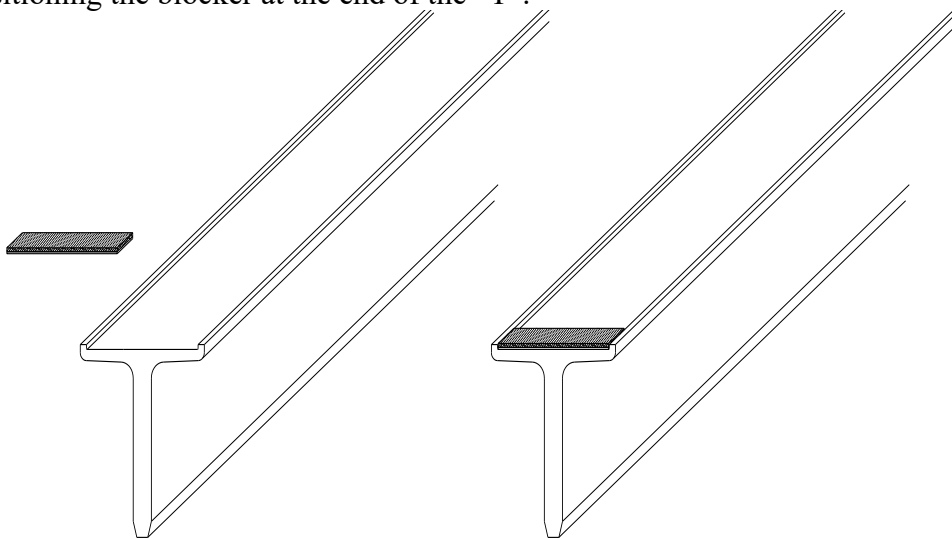

Figure C.1
1. If your system is using Silvis Seals you must apply them to the Sanislope T's now. Orient the "T" as shown (Figure C.1). Apply the end blocker by peeling off the backing strip and positioning the blocker at the end of the "T".